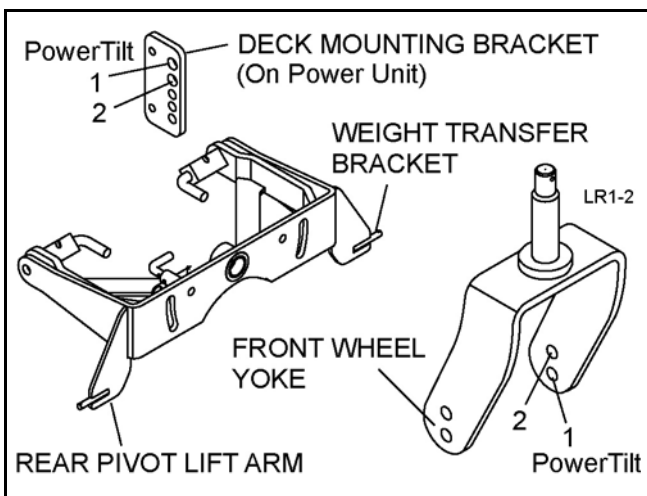

Figure 26. Mounting Hole Location
2. Attach rear pivot lift arm in desired power unit mounting bracket holes and connect with spring loaded pins. See Figure 26 for correct hole locations.
NOTE: Attach rear pivot lift arm in hole position 1 on deck mounting brackets when front wheels are in hole 1 on front wheel yoke. This will put the deck in the high cut range, (2 to 5 inches - manual, 1-1/4 to 5-1/2 inches - PowerTilt™). Attach weight transfer chains to weight transfer brackets using four links. Use the PowerTilt™ in hole position 1 as shown in Figure 26.
4. If the measurement is not 3/8" greater at the rear, check to make sure mower attachment arms are in the correct mounting bracket holes on the power unit, (see Figure 26).
power unit mounting brackets. See Figure 26, page 26.